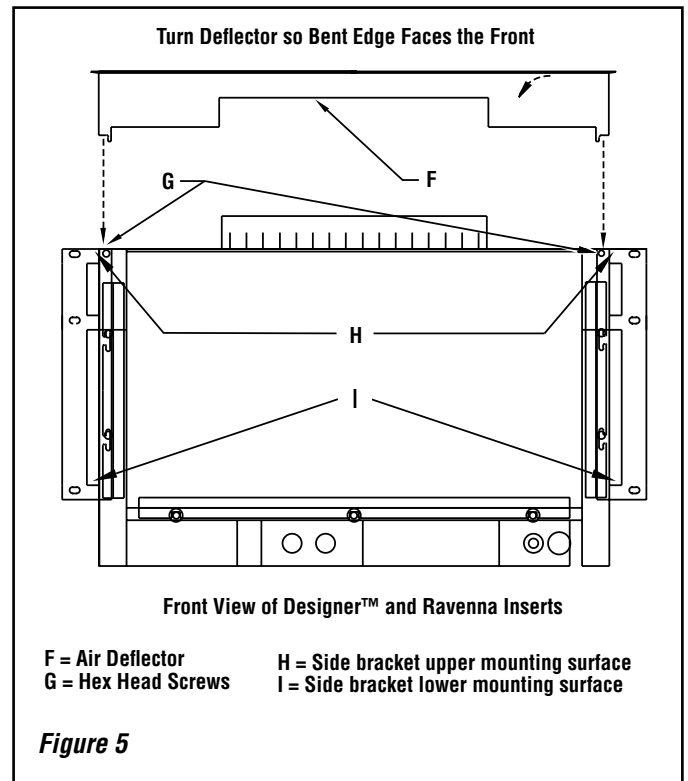

Figure 5
- The brackets should be positioned with the hooks pointing down and the holes located toward the center of the backing plate (see **Figure 5**). Secure each bracket with three 5/32" allen head screws in the three holes in the backing plate as shown in **Figure 6**.
Packaged with the stove is an air deflector (see F in **Figure 5**). Prior to installing the surround panels and pillar face, the air deflector should be installed by loosening the two 5/32" hex head screws (see G in **Figure 5**), positioning the deflector so the tabs are down and the bent edge is facing the front of the insert, sliding the tabs on the deflector behind the surround brackets, and then retightening the screws.
The mounting brackets just installed on the backing plate have two hooks on them. To install the backing plate on the Designer and Ravenna inserts, lift the backing plate and place the hooks on the brackets over surfaces H and I (see **Figure 5**) on the side surround brackets.